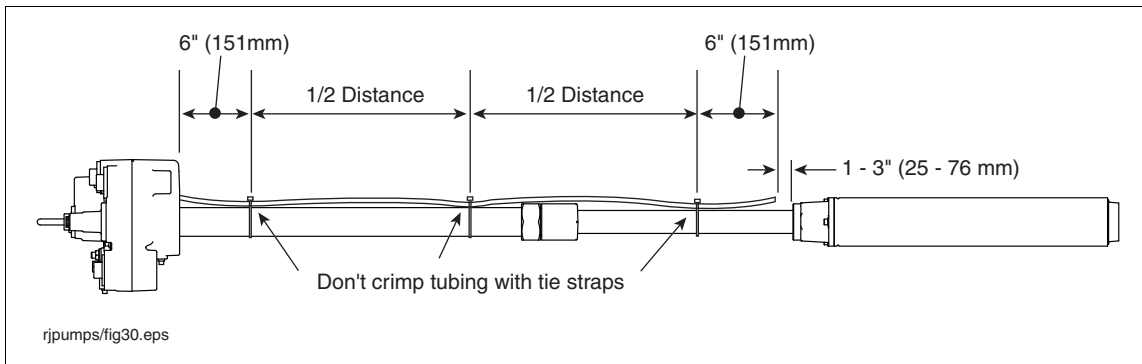

Figure 13. Attaching return line tubing to pump
9. Secure the siphon return line tubing to the column pipe with tie straps. Locate the tie straps approximately 6 inches (152 mm) from manifold, 6 inches from discharge head and in the middle of the tubing (see Figure 13).